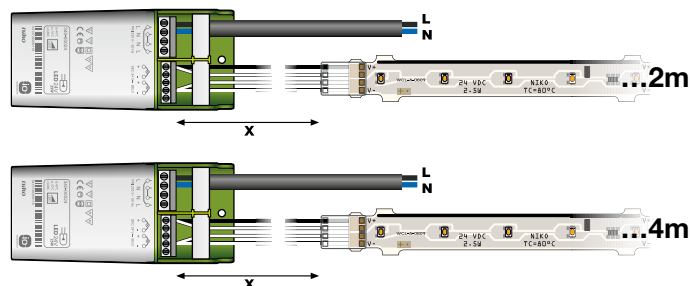

Fig. 9
- In the case of flush mounting, take into account the allowed Tc temperature. For the Tc measurement point, see fig. 9.